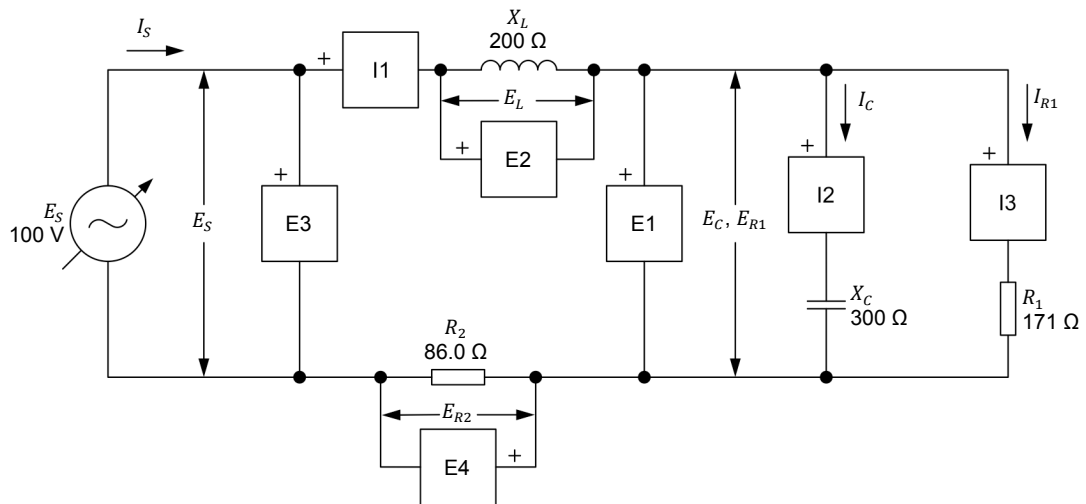

Figure 4-9. AC circuit containing two resistors, an inductor, and a capacitor, and set up for circuit analysis.
7. Set up the circuit shown in Figure 4-9.
9. Resolve the entire circuit of Figure 4-9 using the power triangle method. Assume that the capacitor voltage E_C ($E_C = E_{R1}$) is equal to 50.0 V.